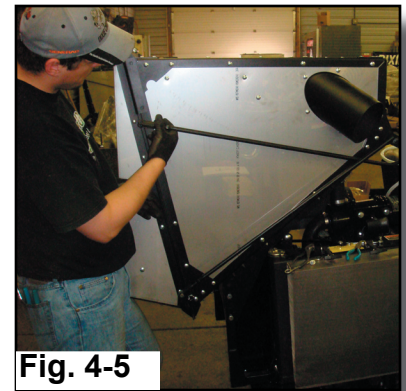

Fig. 4-5
2. Push the door shut while still holding the handle, at the position in step 1, and attach the top yoke, (Fig. 4-5).